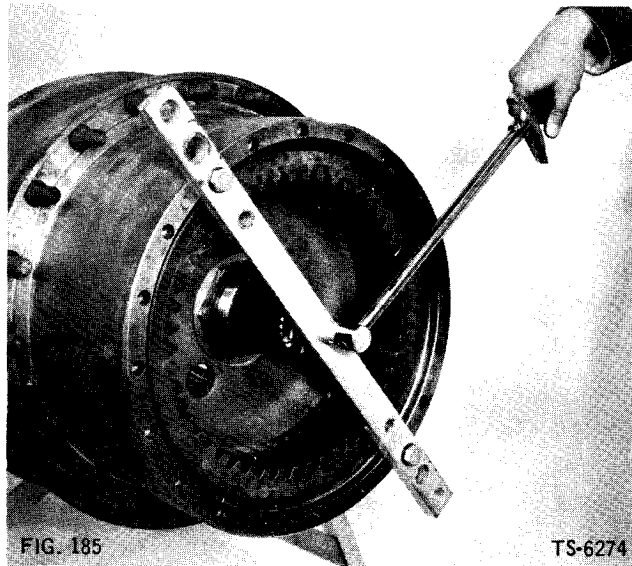

FIG. 185
29. Install torque wrench, 0 to 50 ft. lb. scale, if available, and check rotating torque or rolling resistance of wheel hub (Fig. 185). Rotating torque when using new bearings should be between 15 and 20 ft. lbs. On used bearings rotating torque should be between 6 and 12 ft. lbs.